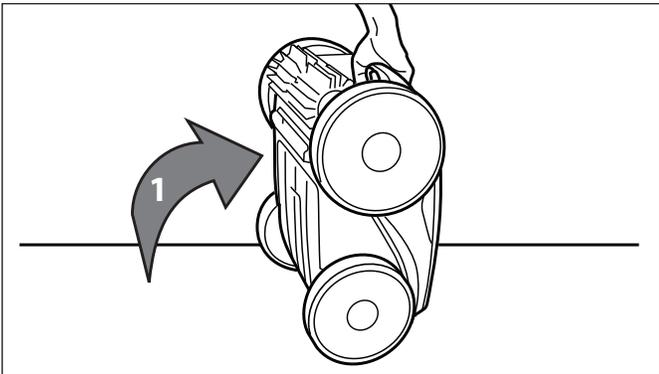

**Figure 29. Roll Cleaner onto Place on the Caddy**
- Roll the unit into place onto the caddy. Refer to Figure 29.